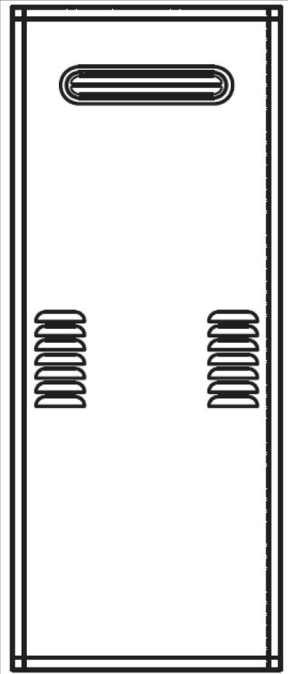

Fig. 5 Completed installation
- ▶ After confirming the heater is operating correctly, replace the front cover of the recess box as shown in Fig. 5.